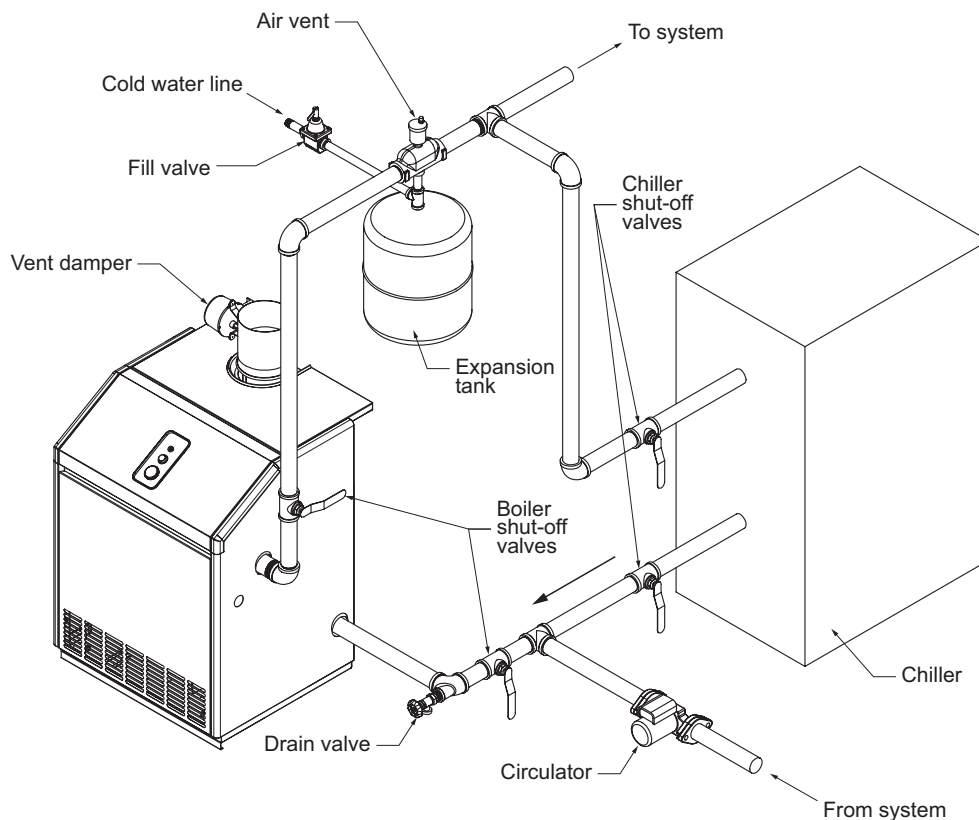

Figure 8.7 (Boiler piping with chiller)
- 6) Piping with a Chiller - If the boiler is used in conjunction with a chiller, pipe the boiler and chiller in parallel as shown in Figure 8.7. Use isolation valves to prevent chilled water from entering the boiler.